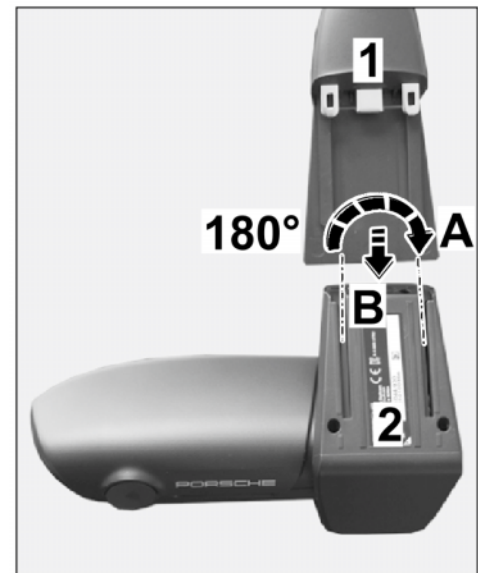

Figure 7
- 2.1.1 Fit retainer plate with wire harness on the base of the front camera until the locking mechanism engages (⇒ Figure 7).